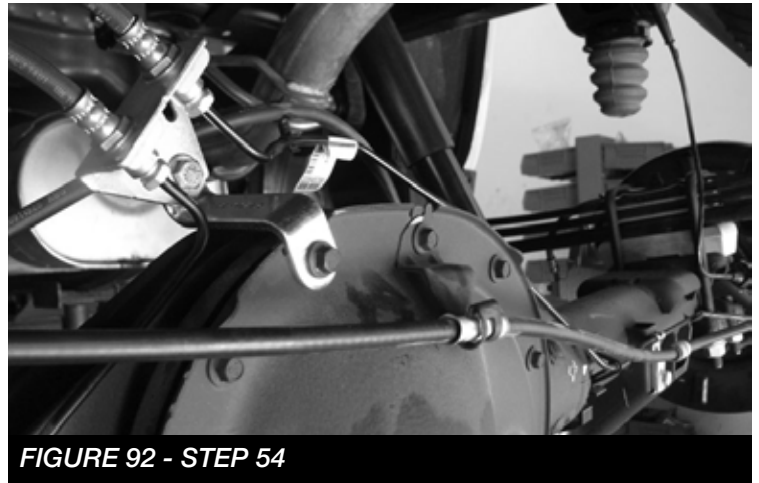

FIGURE 92 - STEP 54
54. Locate FT20349 (Brake Line Bracket) and the supplied 5/16"-18 x 1" bolt, washers and nut. Attach the new bracket to the differential using the factory bolt. Then, attach the brake line assembly to the new fabtech bracket using the supplied 5/16" hardware. Torque to 20 ft-lbs. **SEE FIGURE 92**